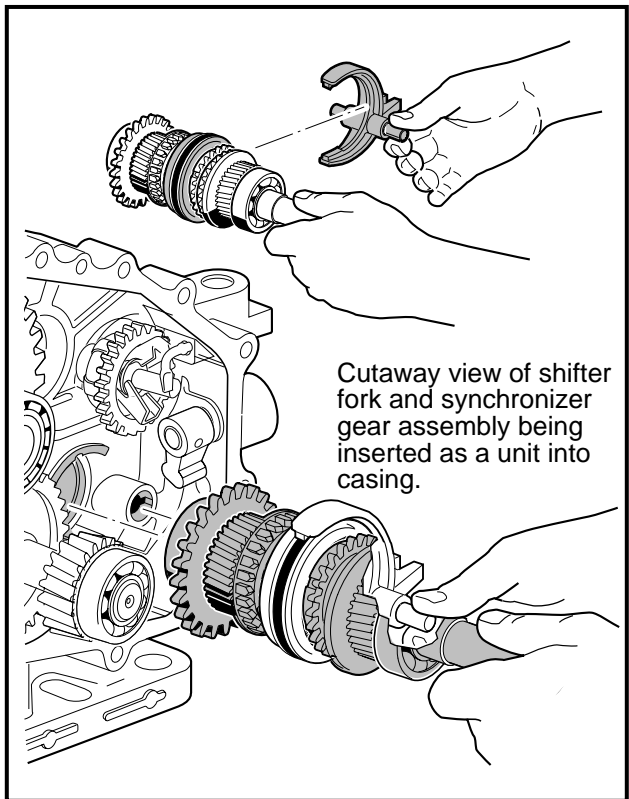
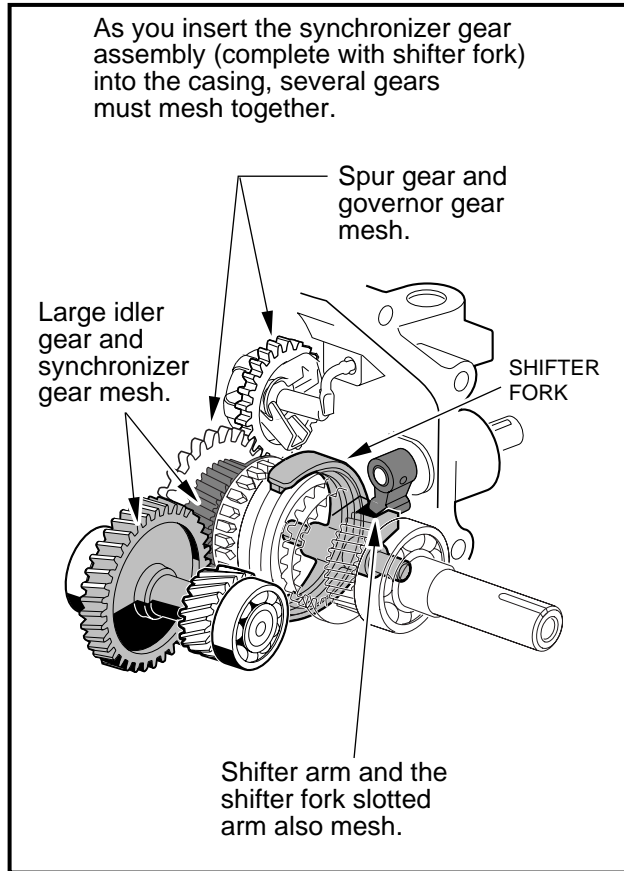

Figure 16-84 Synchronizer Ring Gear
Figure 16-85 Gear Alignment
- 7.4. Position the shifter fork assembly on the synchronizer gear assembly as shown, and install them together, bearing end first, into the bore containing the oil guide (**Figure 16-84, Page 16-34**). Do not seat the assembly, but make sure the spur gear (43) is meshed with the governor gear (66) (**Figure 16-48, Page 16-20**), and the shifter lever (19) (**Figure 16-40, Page 16-16**) is positioned in the bracket on the shifter fork. **See also Figure 16-85, Page 16-36.**